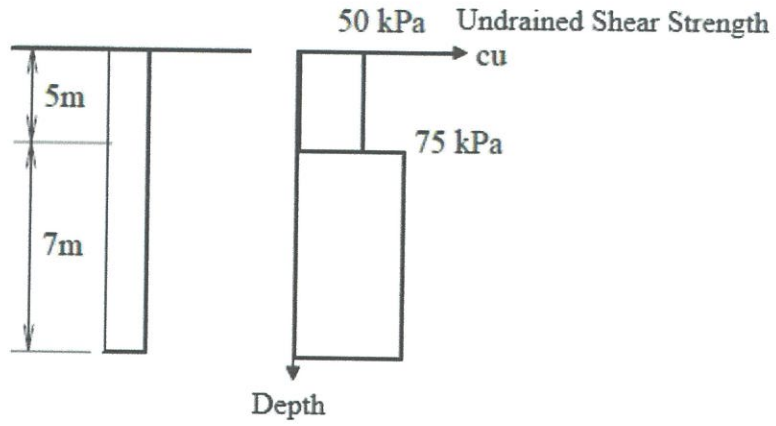

FIGURE Q5 (b) : Undrained shear strength
- (ii) A 12 m prestressed concrete pile 450 mm square is installed in a clay with water table at 5 m depth as shown in **Figure Q5(b)**. The upper clay layer is 5 m thick, with a unit weight (γ) of 17.4 kN/m³. The lower clay layer has a unit weight (γ) of 18.1 kN/m³. Determine the allowable pile capacity (Q_{all}) with factor of safety of 2 by using the simplest method.